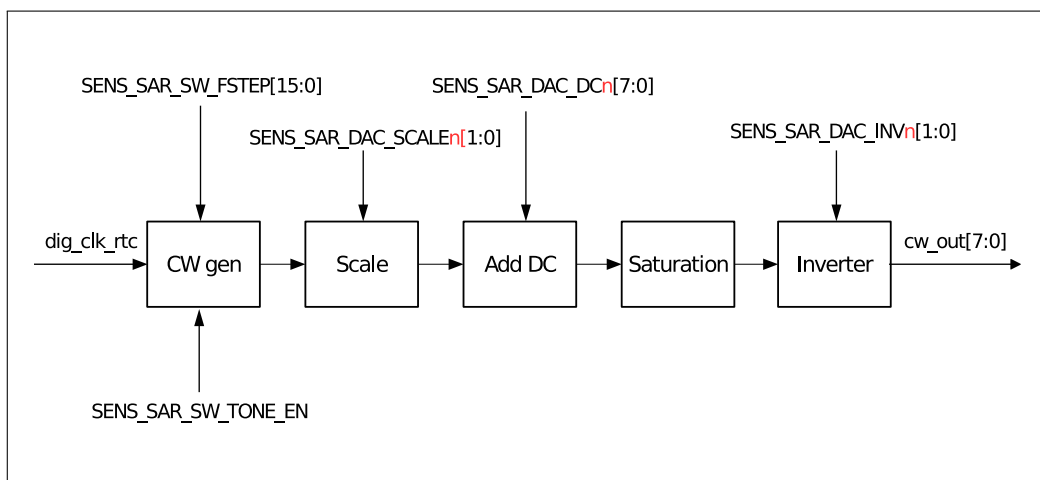

Figure 32-6. Workflow of CW Generator
The cosine wave (CW) generator can be used to generate a cosine or sine tone. Figure 32-6 shows The function of CW generator.